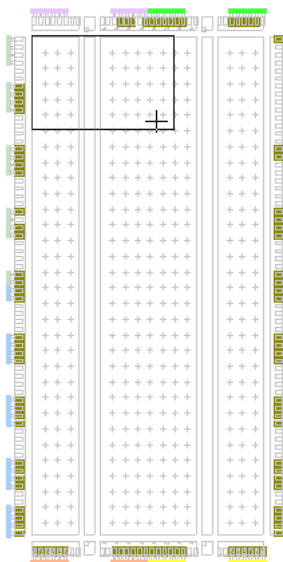

Figure 5: Drawing an Area Group
6. After clicking on the Assign Area Constraint Mode Icon, draw the Area Group in the Device Architecture window by clicking with the left mouse button and holding it down until the desired size is created (Figure 5).